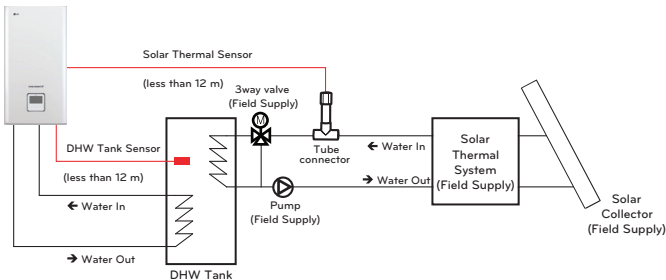

Figure 1
- The tee pipe should be located between the DHW tank and hot water pipe as in Figure 1.